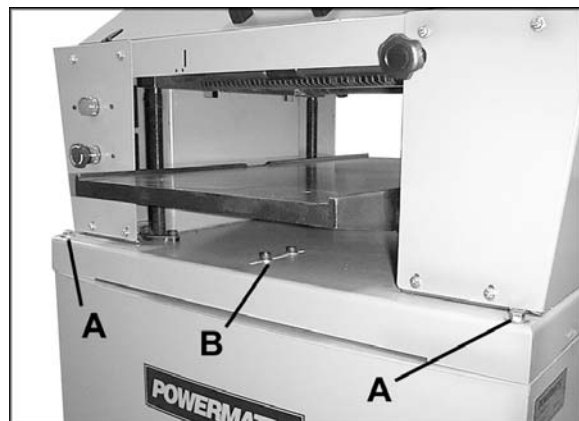
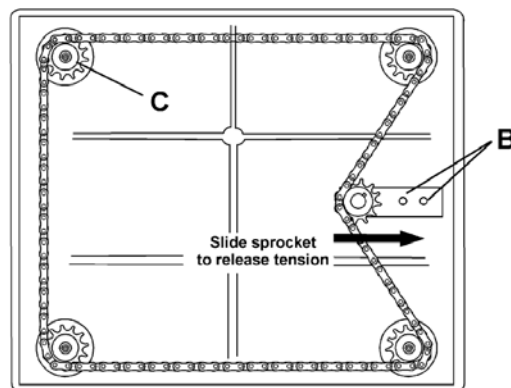

Figure 17
Figure 18
2. If the cutterhead is not level with the table, remove the drive belts, and the four hex head screws (A, Fig. 17) holding the platform to the stand. Turn the head assembly over to reach the sprocket adjustments underneath the platform.
3. Loosen the cap screws (B, Fig. 17 & 18) near the idler sprocket to relieve tension on the chain. Remove chain from sprocket on the end that needs adjustment.
4. Turn the sprocket (C, Fig. 18) to raise or lower that edge of the table. NOTE: This adjustment is sensitive and it should not be necessary to turn the sprocket more than one or two teeth.
5. After checking with the gauge to make sure the adjustments are correct, place chain back on sprocket, re-tension idler sprocket, tighten cap screws (B, Fig. 18) and secure head assembly back on to the stand with the four hex head screws (A, Fig. 17).